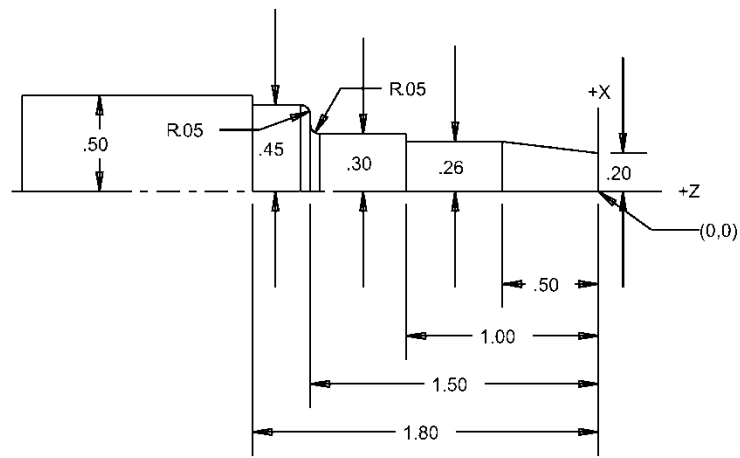

Figure 1: Geometry of the finished turned part.
This week's laboratory assignment involves continued use of the CAM software (Mastercam X4) to create a part program for the cylindrical part shown in Figure 1, post-processing the program and running it on the Emco-Meier CNC turning machine.
1. Using the Mastercam X manual (if necessary), create a part program for the part shown in Figure 1. The workpiece is Aluminum 7075-T6 and a diameter of 1 in. and a length of 3 in. Use the following process parameters: